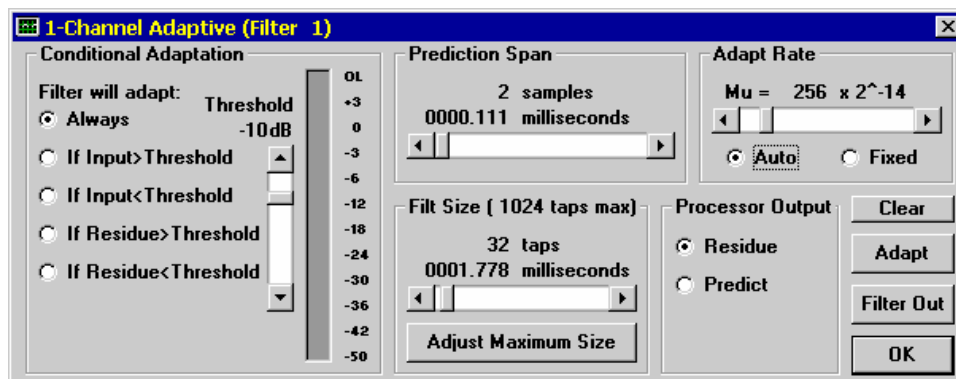

Figure 3-8 Tutorial 1CH Adaptive Filter Control Window
22. Click on the **Control** button in the Filter 1 block. The window in Figure 3-8 will appear:
23. Use the mouse to set all controls to match the settings shown in Figure 3-8*. Do not click on the **OK** button at this time.